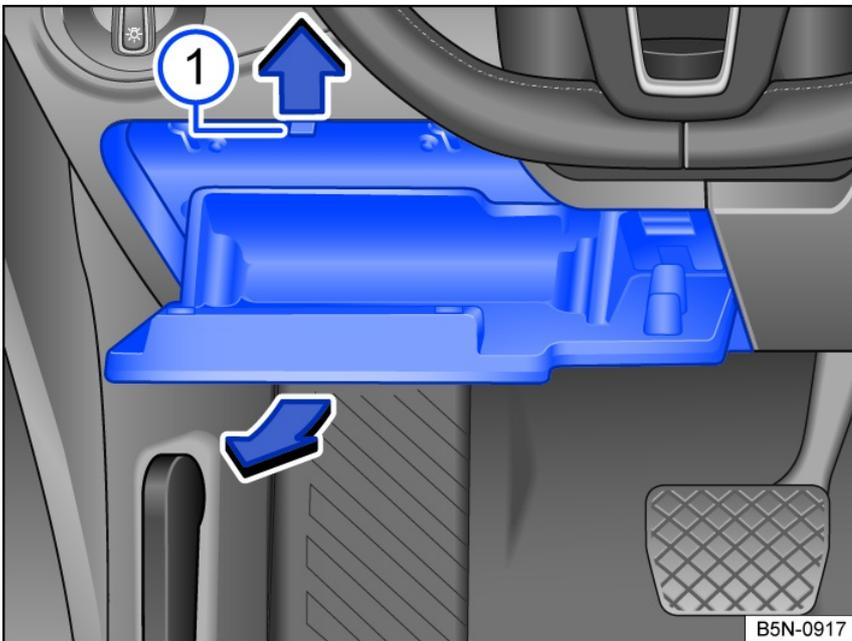

Fig. 184 To the left of the steering wheel: Fuse box cover in the instrument panel (left-hand drive vehicles).
1. Open the storage compartment on the driver's side and empty it, if necessary *fig. 184*.
2. Push the limit stop up, open the driver side storage compartment further in the direction of the arrow, and pull it out *fig. 184* ①.
2. Close the driver side storage compartment a little way, pushing up the limit stop if necessary *fig. 184* ①.